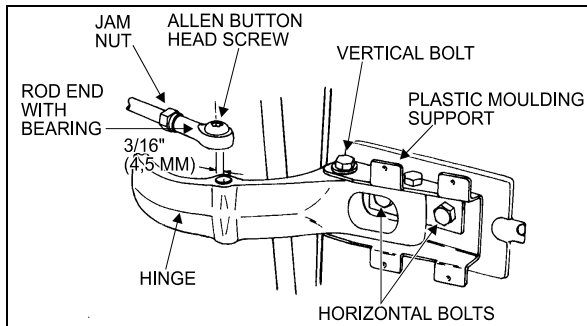

FIGURE 28: UPPER DOOR HINGE 18058
2. Remove the Allen button head screw and the washer retaining the rod end with bearing to the upper hinge. See Figure 28.